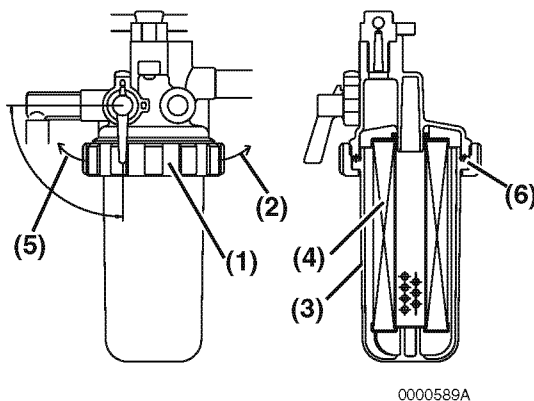

Figure 5-14
4. Carefully remove the cup (**Figure 5-14, (3)**) and pour the fuel into an approved container and dispose of waste properly. Hold the bottom of the cup with a shop towel to prevent the fuel from dripping. Wipe up any spills immediately.
5. Remove the element (**Figure 5-14, (4)**) by pulling it down.
8. Check the condition of the cup O-ring (**Figure 5-14, (6)**). Replace if necessary.
9. Reinstall the cup to the mounting flange and turn the retaining ring (**Figure 5-14, (1)**) to the right (**Figure 5-14, (2)**). Hand-tighten only.
3. Turn the retaining ring (**Figure 5-14, (1)**) to the left (**Figure 5-14, (2)**).